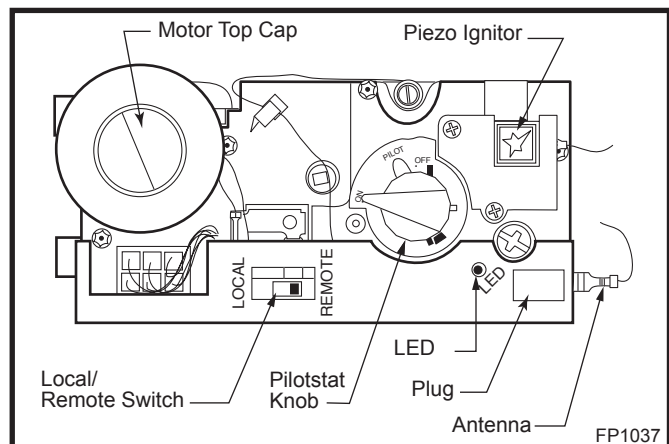

Fig. 67 Comfort control valve.
3. Remove and replace plug on lower right hand side of the valve; Red for LP and blue for NG. (Fig. 67)